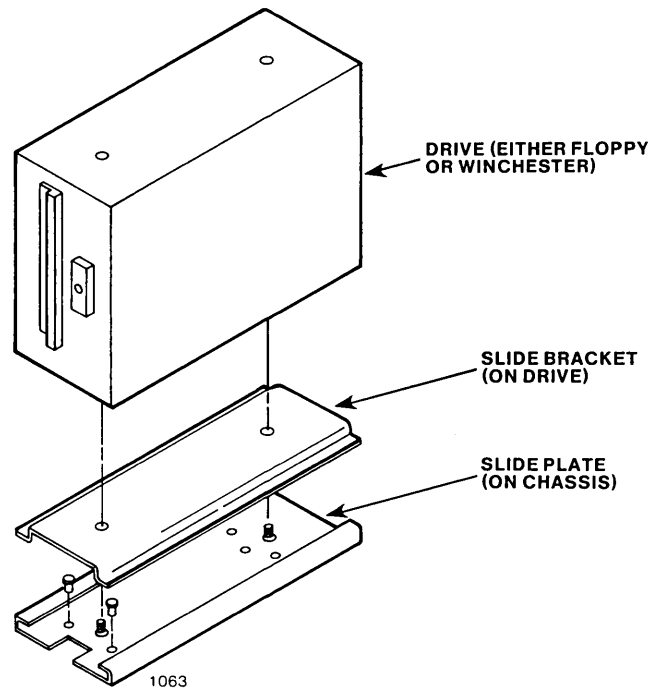

Figure 4-8. Slide Bracket Removal From Drives
10. Remove the two screws from the slide bracket (see Figure 4-8) on the bottom of the old drive, remove the slide bracket, and install it onto the bottom of the replacement drive.
10. Remove the two screws from the slide bracket on the bottom of the drive, remove the slide bracket (see Figure 4-8) from the drive, and install it onto the bottom of the replacement drive.